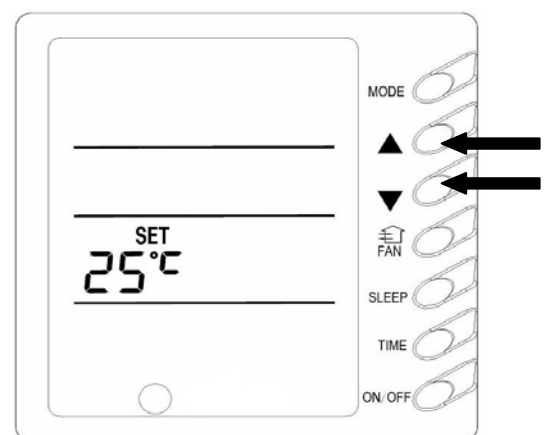

Fig. 4
3) Temperature adjustment (Fig. 4)